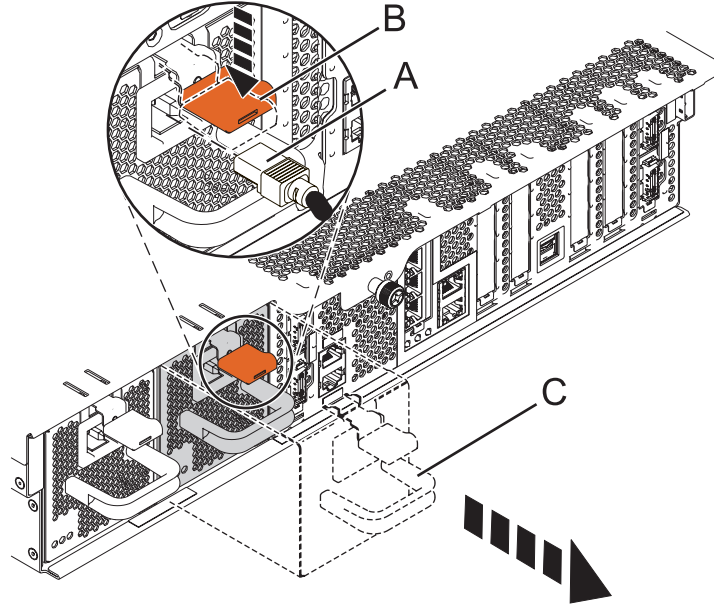

Figure 5. Removing the power supply from a rack-mounted model
7. Disconnect the power cable (A) from the front of the power supply as shown in Figure 5 on page 7.